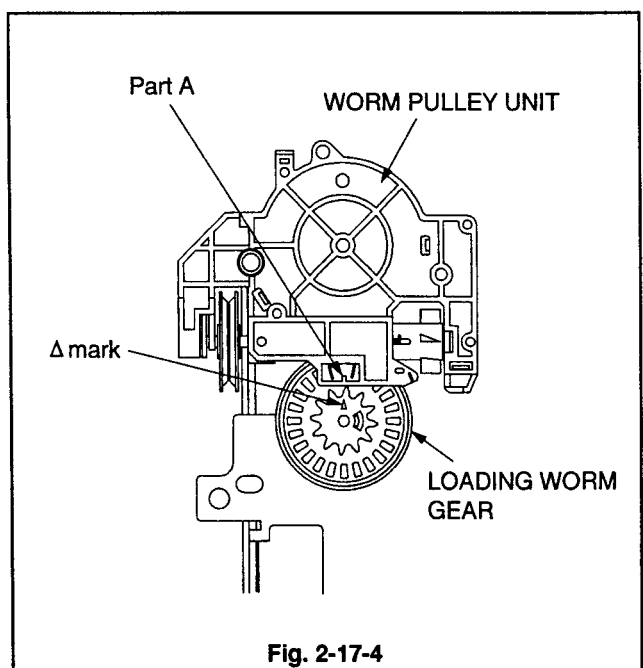

Fig. 2-17-4
4. Install the WORM PULLEY UNIT so that the Δ mark on the LOADING WORM GEAR, shown in Fig. 2-17-4, matches with the Part A.